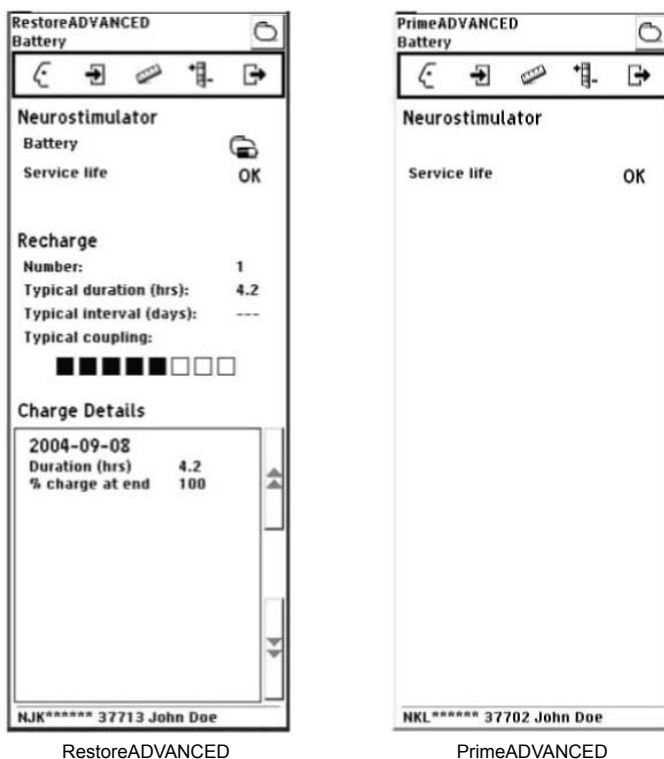

Figure 23. BATTERY screen.
2. Check the battery level status icon (Figure 23, RestoreADVANCED INS). The icon displayed indicates the battery level status at 100% (), 75% (), 50% (), 25% (), or 0% ().
3. Review the implanted neurostimulator battery service life (Figure 23) displayed as:
4. Review the implanted neurostimulator battery recharge information **since the last programming session** (Figure 23, RestoreADVANCED INS):
5. Review the details of the charging session (Figure 23, RestoreADVANCED INS):